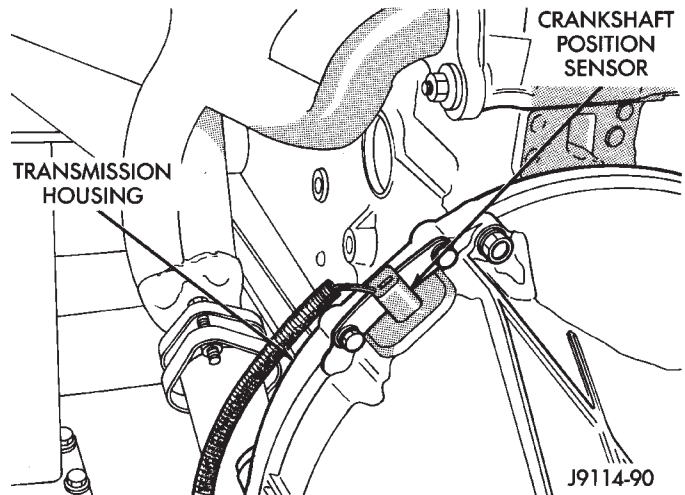

Fig. 4 Crankshaft Position Sensor Location
(12) Remove crankshaft position sensor (Fig. 4).
(13) Disconnect transmission and transfer case vent hoses.
(14) Remove slave cylinder from clutch housing.